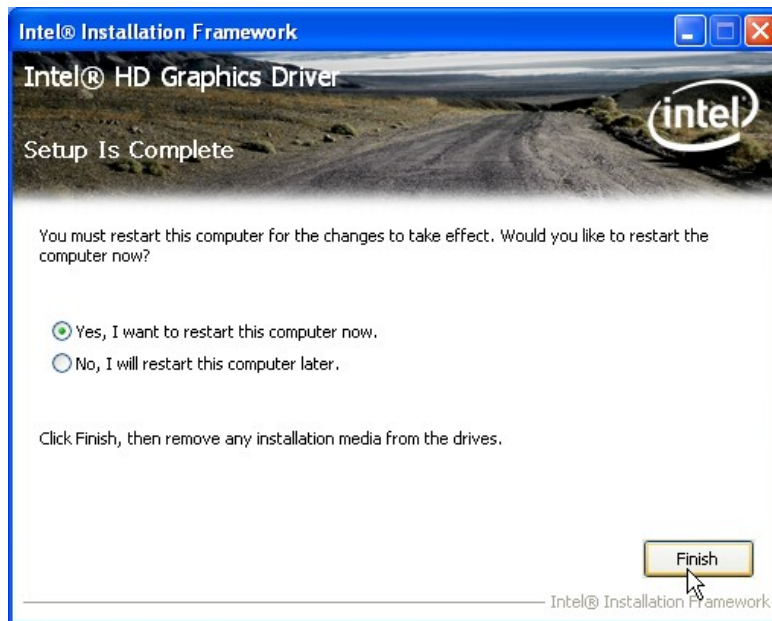

Figure 6-11: Graphics Driver Installation Finish Screen
Step 10: The **Finish** screen in **Figure 6-11** appears.